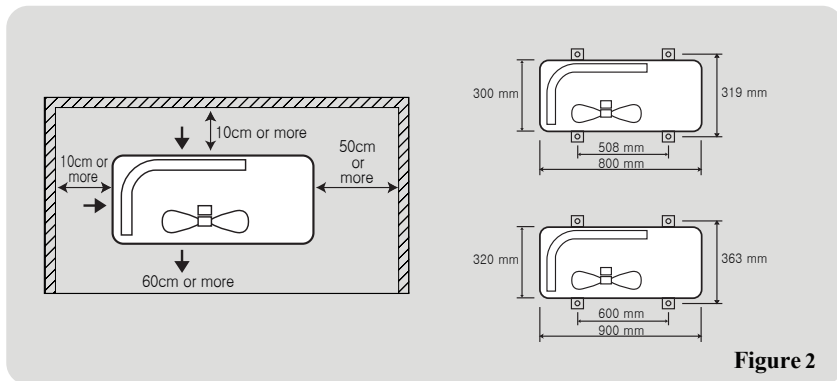

Figure 2
- Leave the space shown in Figure. 2 between the unit and any obstruction for good air flow.